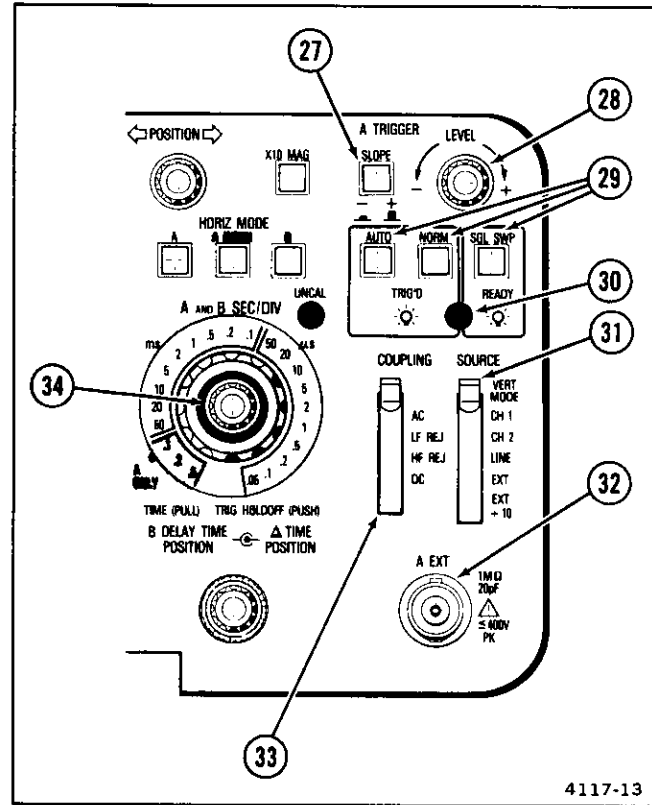

Figure 6. A TRIGGER controls, connector, and indicator.
Refer to Figure 6 for location of items 27 through 34.
②7 **SLOPE Switch**—Selects the slope of the signal that triggers the sweep.